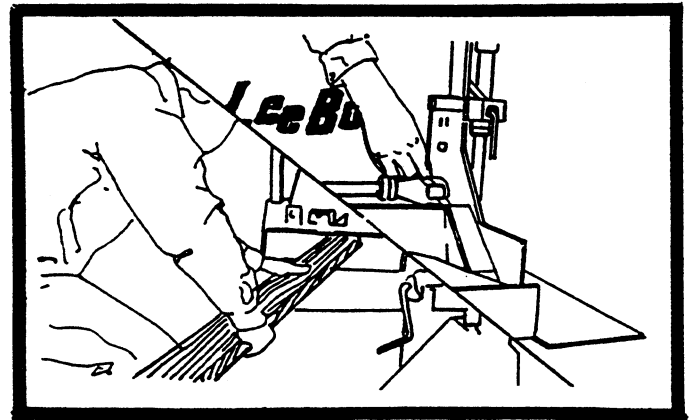

FIGURE 32
4. Clean screed insert. Remove screed insert by disconnecting extension cylinder and then pulling the screed straight out. See Figure 32. (When needed)